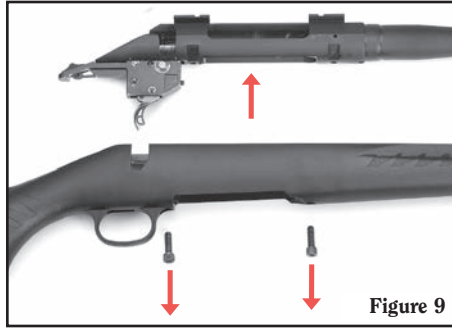

Figure 9
5. **To remove the barreled action from the stock:** Use a 3/16" Allen wrench to loosen and remove the two hex-head screws in the bottom of the stock. Lift the barreled-action out of the stock. (See Figure 9.)